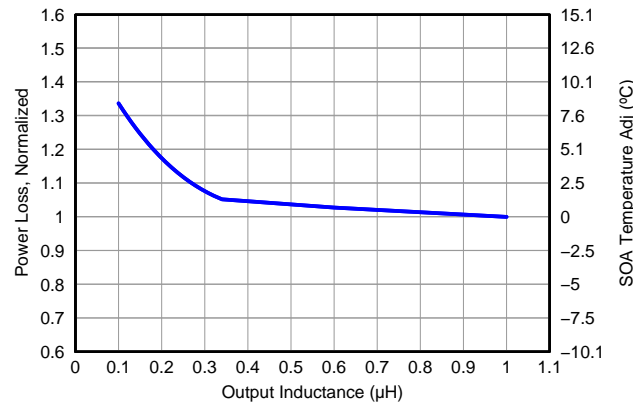

Figure 9. Normalized Power Loss vs Output Inductance
- Normalized power loss for output inductor ≈ 1.06 (Figure 9)
- SOA adjustment for output inductor $\approx 1.5^\circ\text{C}$ (Figure 9)